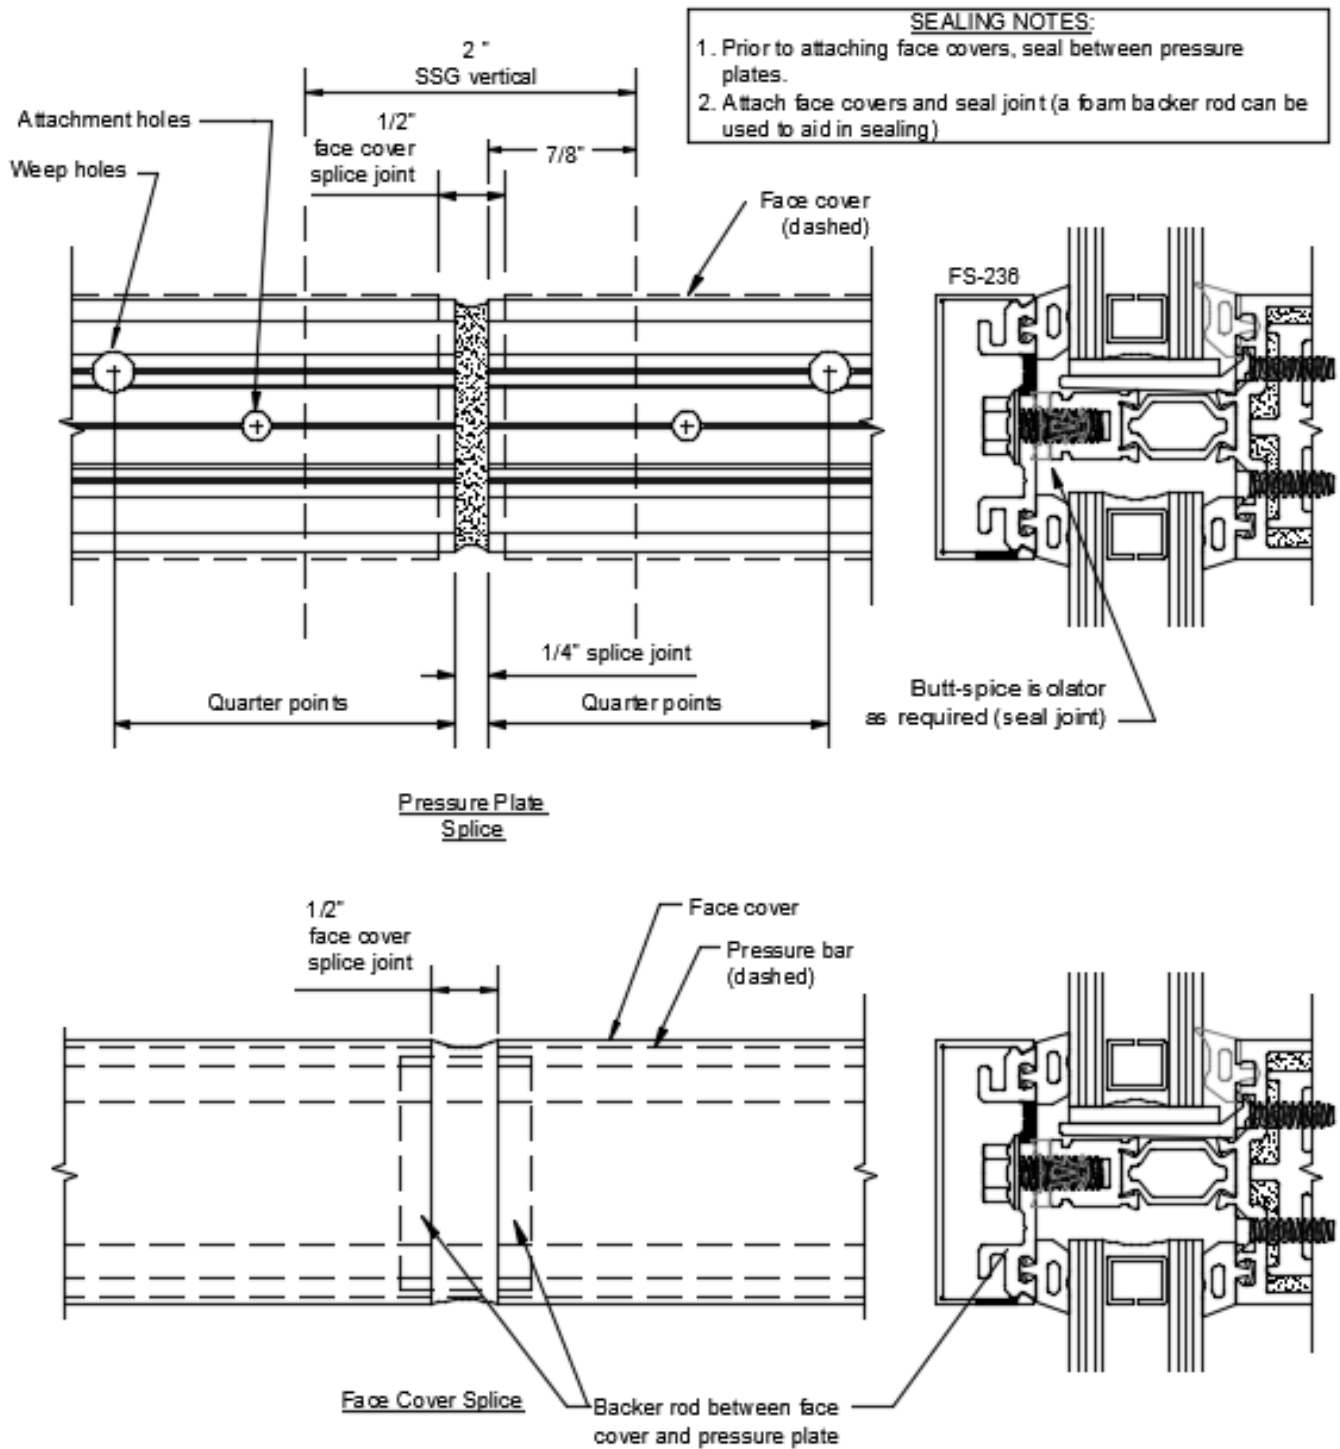

Figure 67: Pressure Plate/Face Cap Splicing & Sealing @ SSG Mullions (Intermediate Horizontal Shown; Head & Sill Similar)
NOTE: Horizontal Pressure Plates and Face Covers run continuous over SSG Mullions, not to exceed (3) lites in length. See *Figure 67* for splicing and sealing instructions.